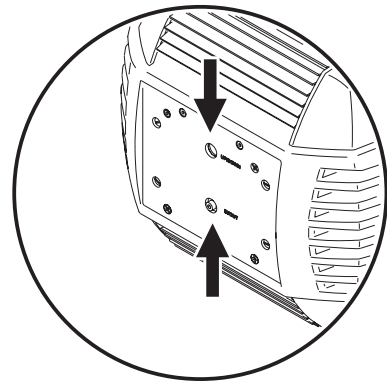

Figure 5: Lamp adjustment screws
- Center the hot spot vertically using the top Allen-head adjustment screw in the center of the rear plate. (See Figure 5.) If there is significant hot spot, turn the bottom adjustment screw counterclockwise until the light is evenly distributed. If the light is brighter around the edge than it is in the center, or if light output is low, turn the bottom adjustment screw clockwise until the light is bright and evenly distributed.